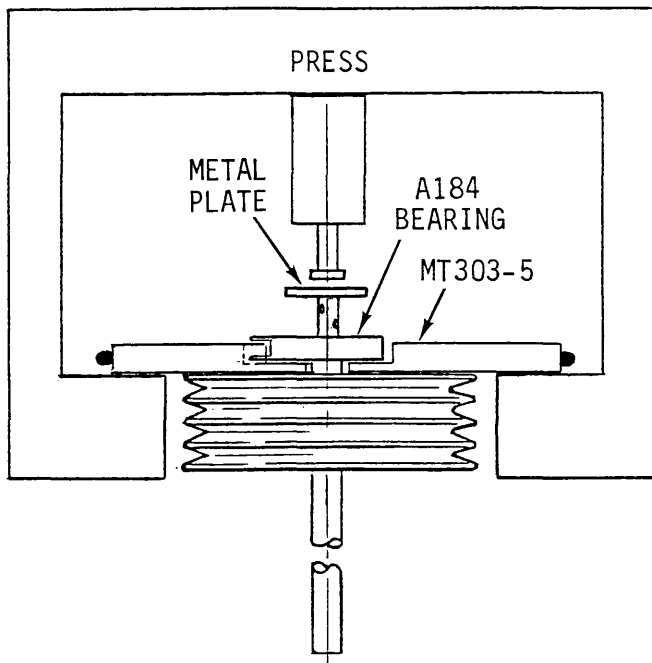

FIGURE 7-3A
a. Refer to Figures 7-3A and 7-3B. Remove A184 bearing:
1. If a press is available, assemble MT303-5 lower puller assembly between A184 bearing and upper sheave per Figure 7-3A. Press clutch shaft out of bearing.